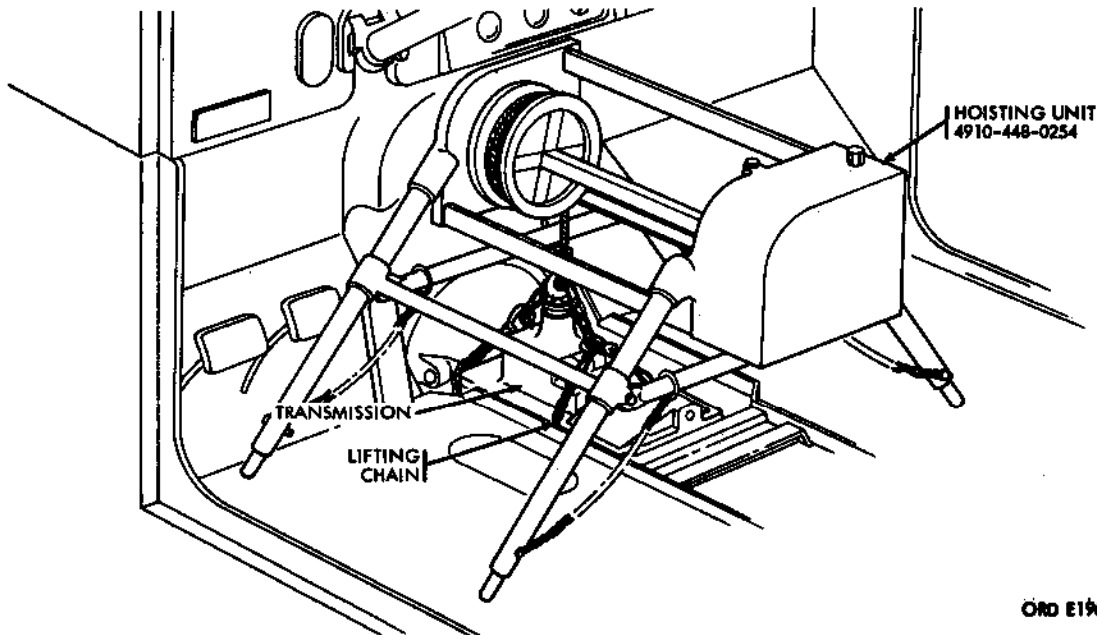

Figure 244. Transmission hoisting unit
- (1) Install chain around transmission (fig. 244)
- (2) Position hoisting unit over transmission and attach chain to hoist (fig. 244).
- (3) Operate hoist to absorb weight of transmission.